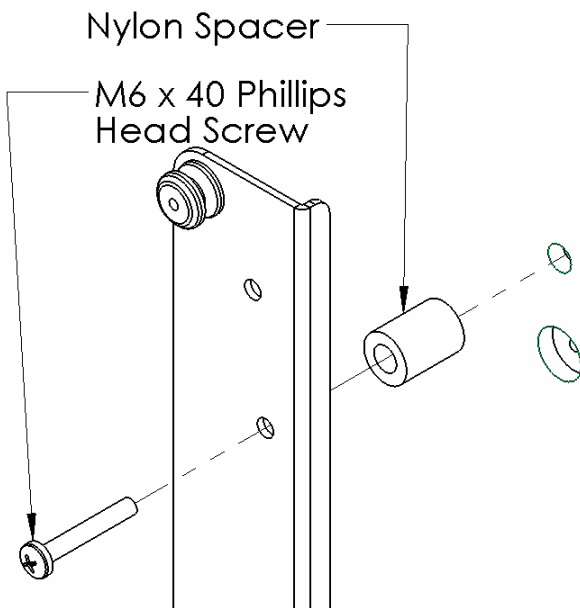
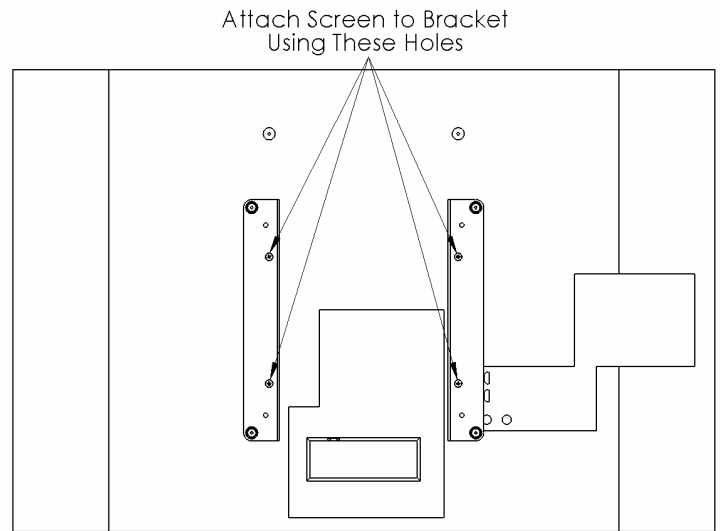

Figure 4
Figure 5
- Place Nylon spacers over mounting holes on back of screen. Attach mounting brackets to display using the M6 screws (see Figure 4 & Figure 5)